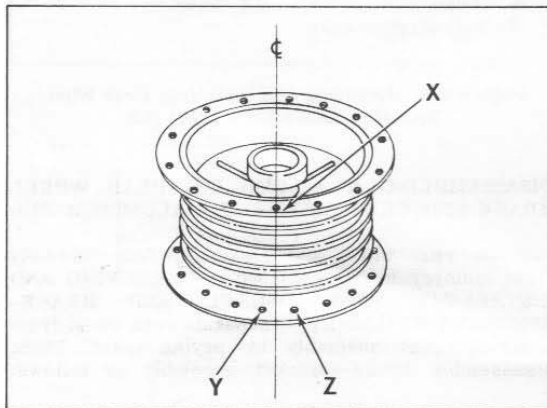

Figure 2.11. Hub With Centerline
2. Draw an imaginary centerline through axle center hole and over any spoke hole (X) on upper flange. See Figure 2.11. Note that centerline also lines up exactly between spoke holes (Y and Z) on lower flange of hub.